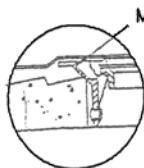

FIG. 11
1. For Flangeless Trim, Plaster Ceiling. (Fig. 11) SET MOUNTING FRAME so that bottom edge is flush with finished ceiling, as shown. Maximum ceiling thickness, 3/4".